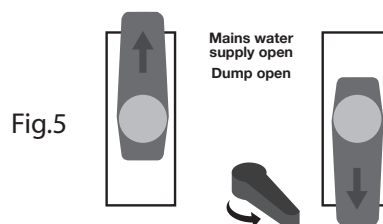

Fig.5
- 5) Set the valves as per Figure 5, open the clean water inlet tap and switch on the pump.